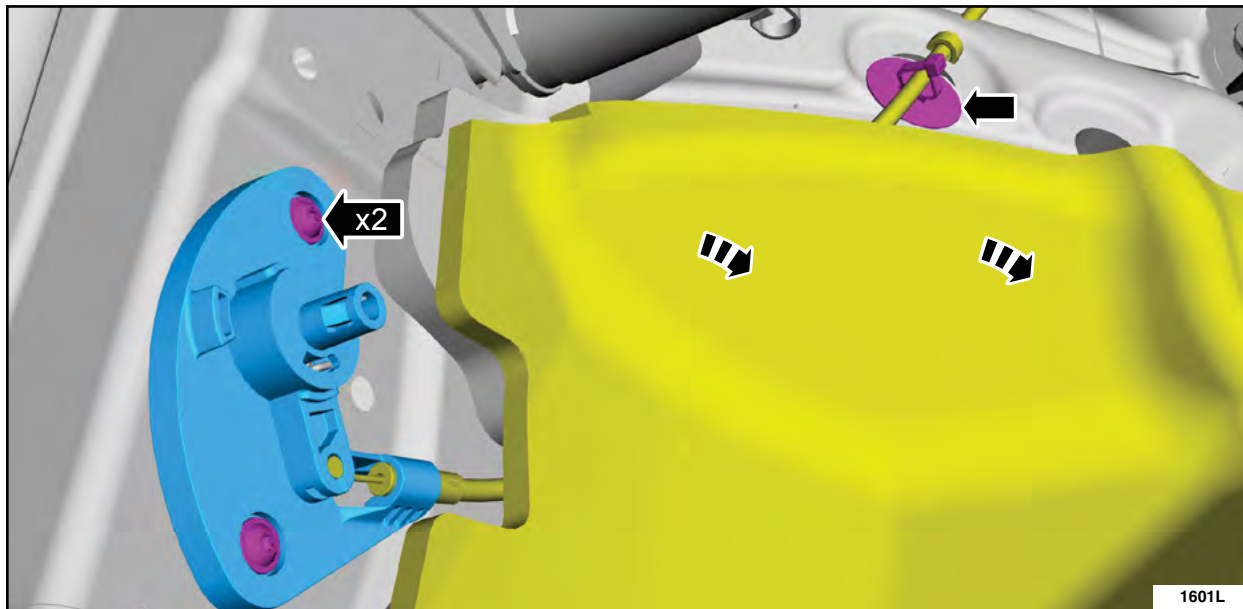

FIGURE 5
2. Remove the hood latch release. See Figure 5.
11. Install the hood latch release. See Figure 5.